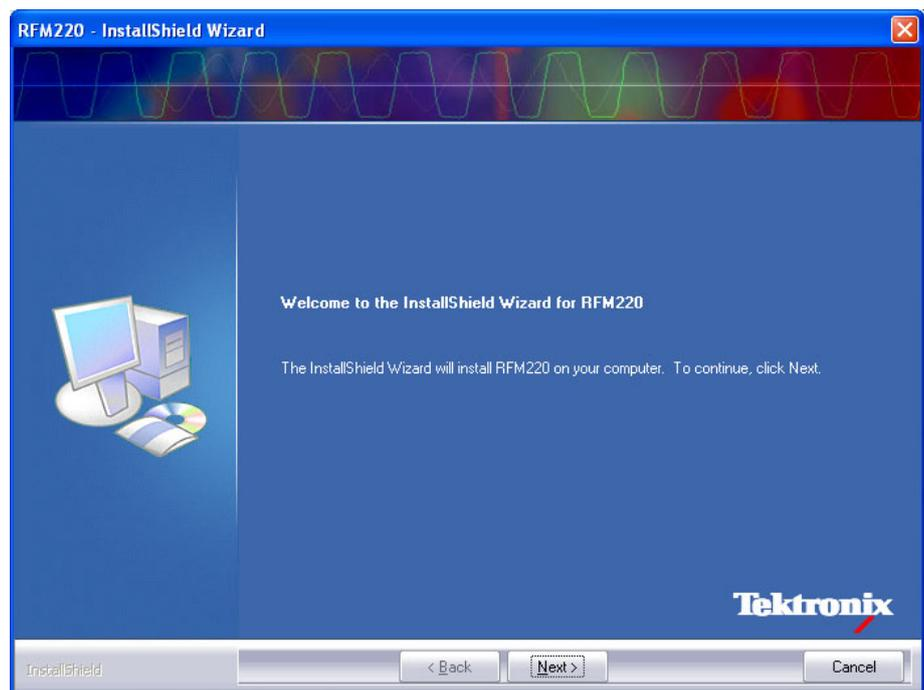

Figure 7: Initial RFM220 InstallShield display
- Use appropriate hardware to secure the front face plate of the instrument to the rack, restraining the cantilevered mass of the instrument. (See Figure 7.)